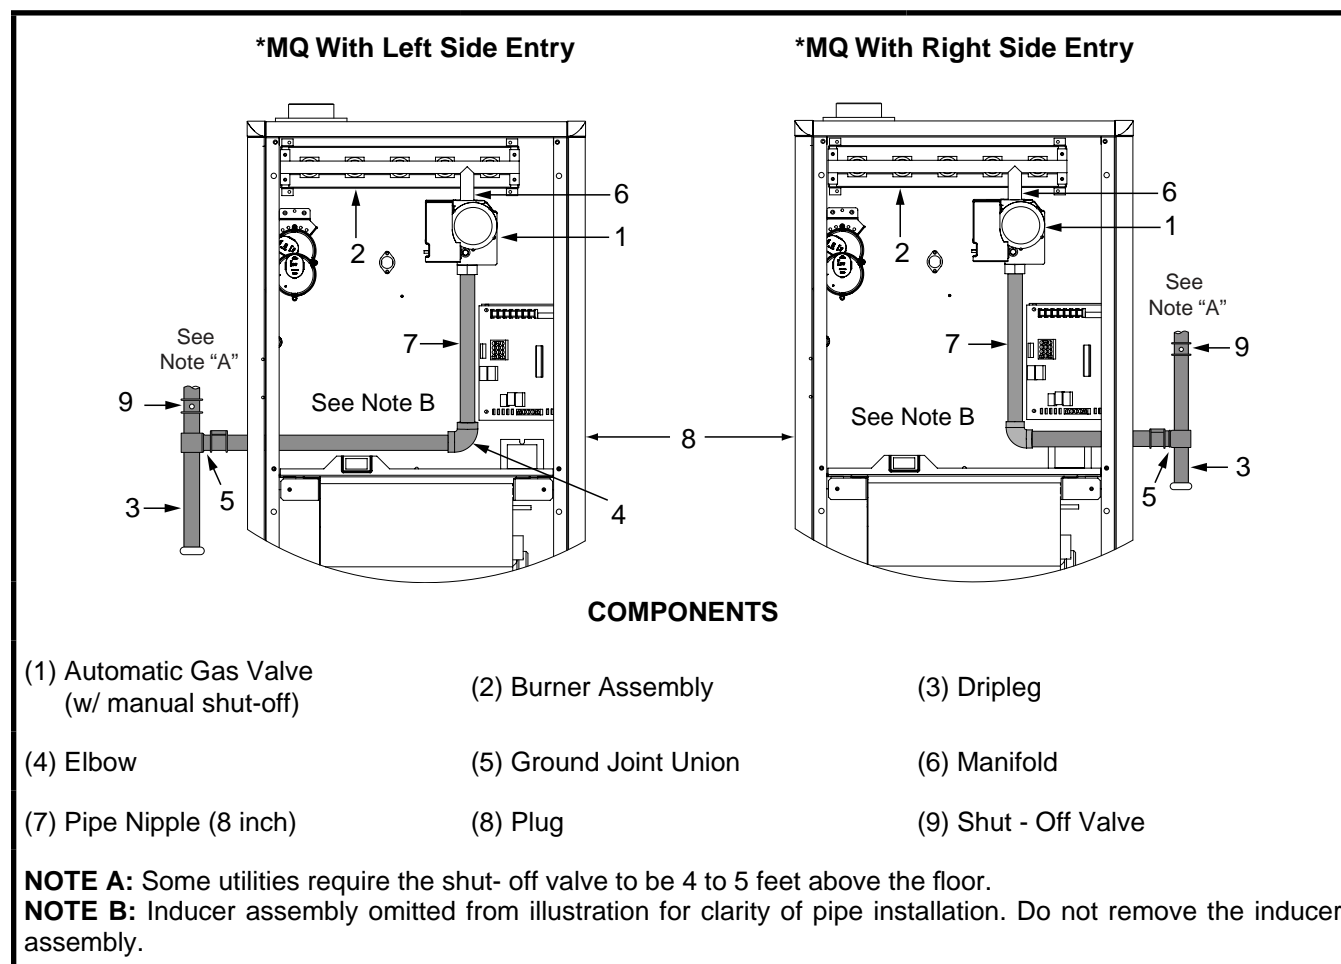

Figure 19. Typical Gas Connections
- Some local regulations require the installation of a manual main shut-off valve and ground joint union external to the furnace as depicted in Figure 19 (page 22). The shut-off valve should be readily accessible for service and/or emergency use. Consult the local utility or gas supplier for additional requirements regarding placement of the manual main gas shut-off.
- A drip leg should be installed in the vertical pipe run to the unit as shown in Figure 19.
The furnace may be installed for either left or right side gas entry. When connecting the gas supply, provide clearance between the gas supply line and the entry hole in the furnace casing to avoid unwanted noise and/or damage to the furnace. A typical gas service hookup is shown in Figure 19.